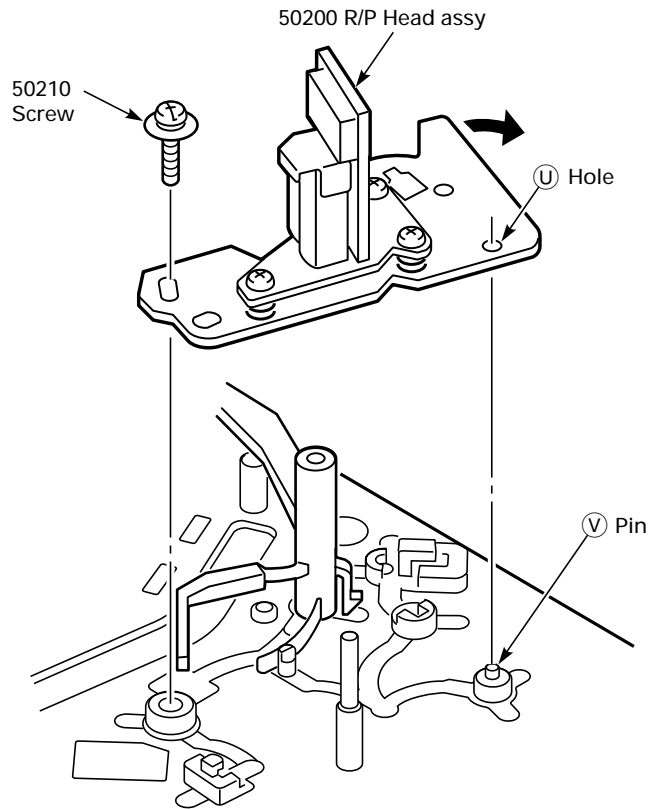

Fig. 8.36
– Undo the screw (Pos. 50210), press the R/P head assy (Pos. 50200) in the direction of the arrow as shown in Fig. 8.36 and remove it upwards.